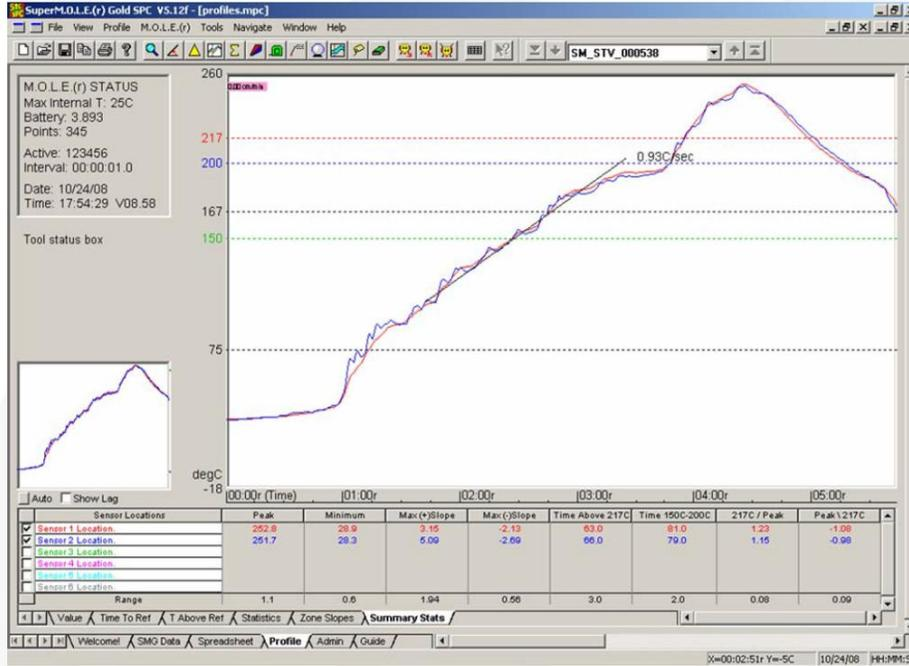

Figure 2. Fairchild-Derived Reflow Profile for WLCSP Using SAC305 Solder Paste
- The time above 217°C for this much-larger package is only 45-47 seconds. The difference is the PCB has a low density array of this package type, so thermal load is lower than the example in Figure 2 above.